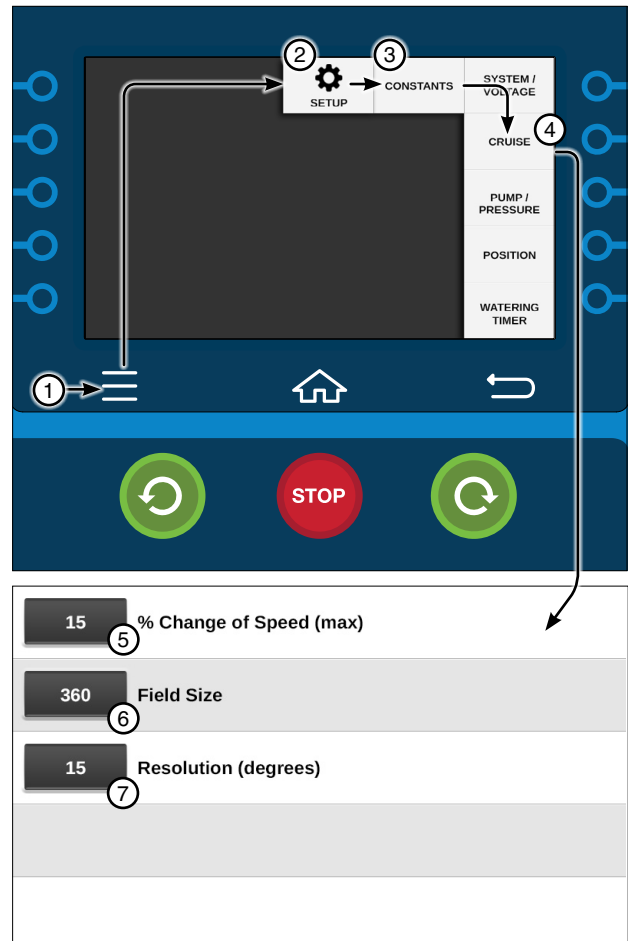

Figure 27-1 1. Menu 5. % Change of Speed
The Cruise Control settings for the % Change Of Speed (max), Field Size, and Resolution constants can be viewed or changed from the Constants screen. Refer to Figure 27-1.
1. Push **Menu**, **Setup**, **Constants** and **Cruise** to display the Cruise screen. Refer to Figure 27-1.